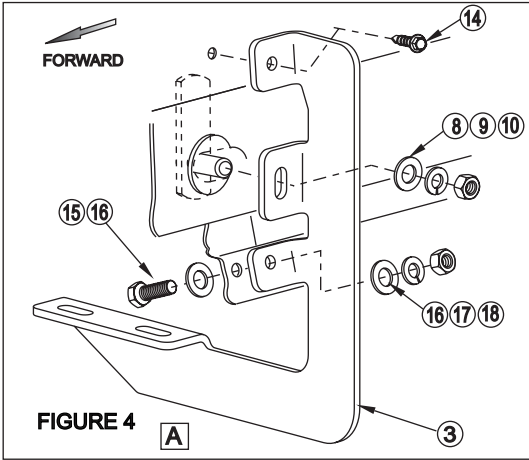

FIGURE 4
STEP 4. Attach mounting brackets as shown. Hand tighten. See Figures 4 (front brackets), 5 (center brackets) and 6 (rear brackets).